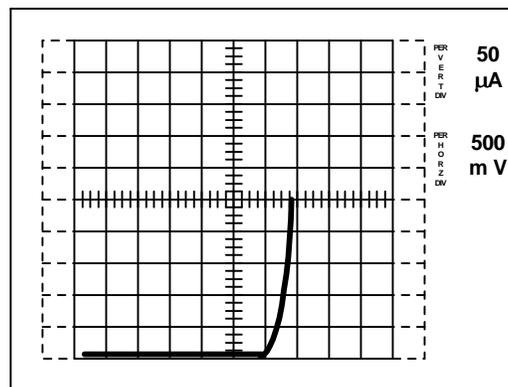

Figure 4. Gate-source threshold voltage
10. Connect the device using the LEFT/ RIGHT switch. Increase the VARIABLE COLLECTOR VOLTAGE until the drain current reaches 250 microA as indicated by the trace on the screen. Read the voltage on the horizontal center line (since this line corresponds to  $I_D = 250 \text{ mA}$ ) (see Figure 4).